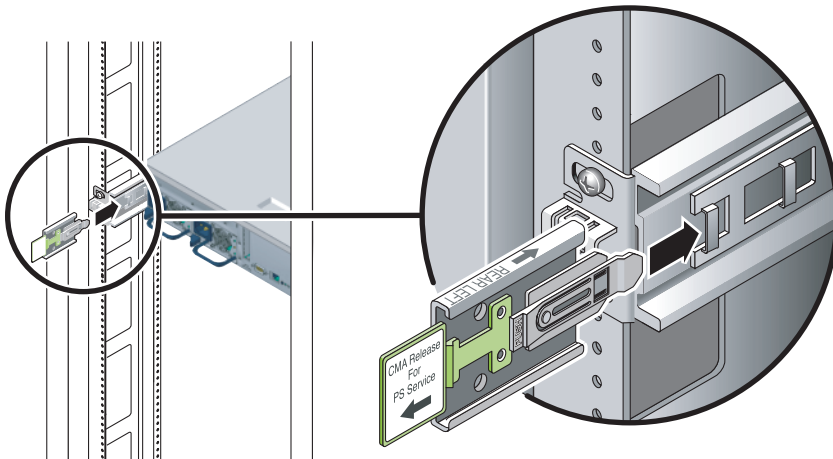

FIGURE 3-30 Inserting the CMA Rail Extension Into the Rear of the Left Slide Rail
1. At the rear of the rack, plug the CMA rail extension into the end of the left sliding rail assembly (FIGURE 3-30).